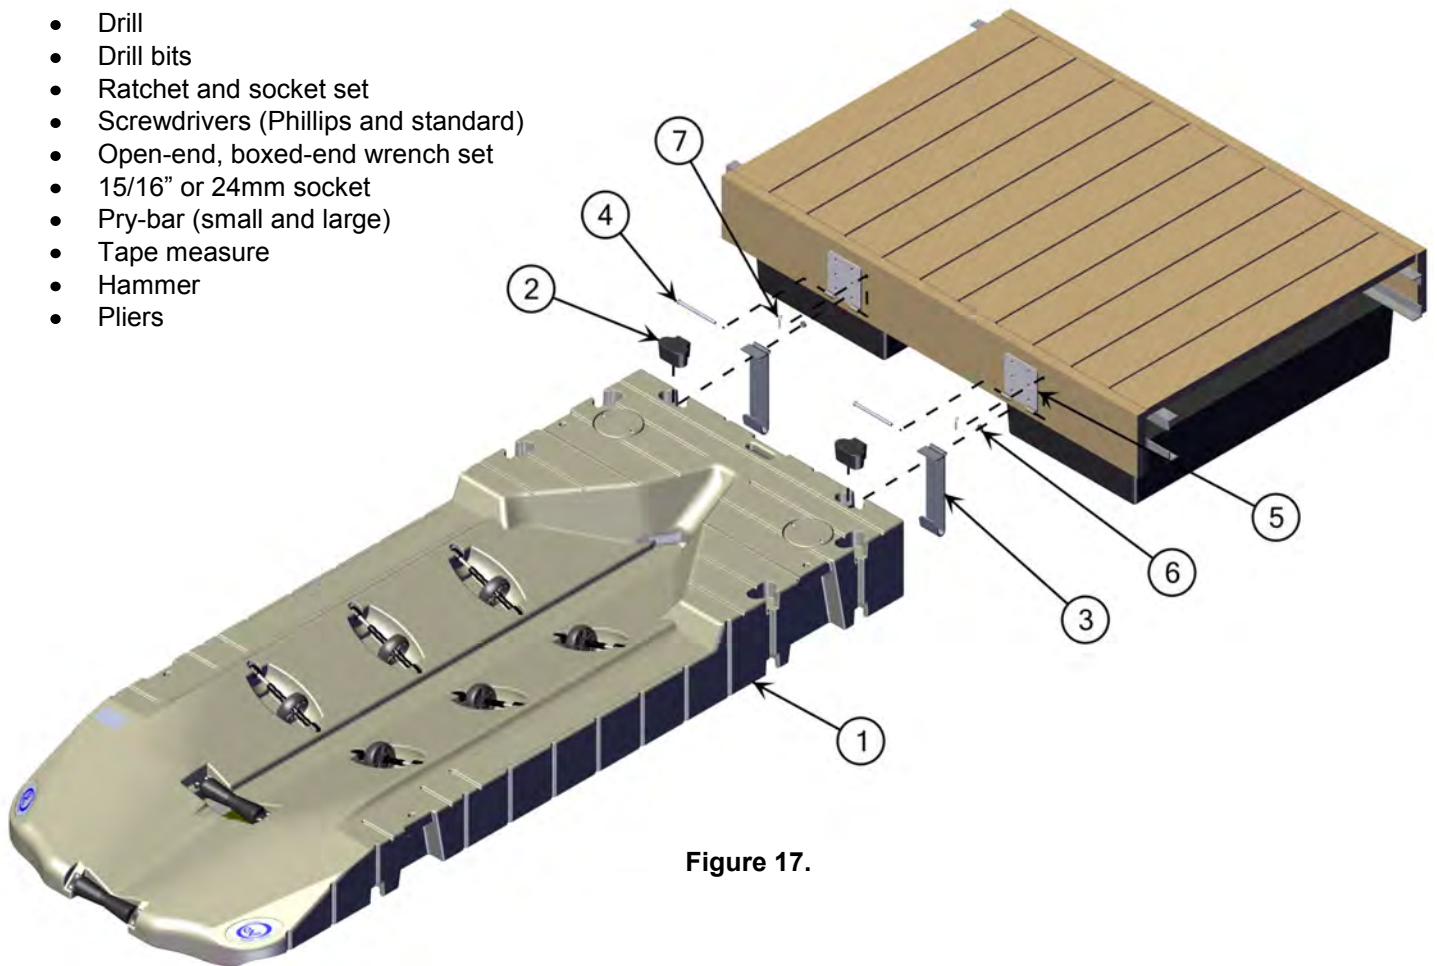
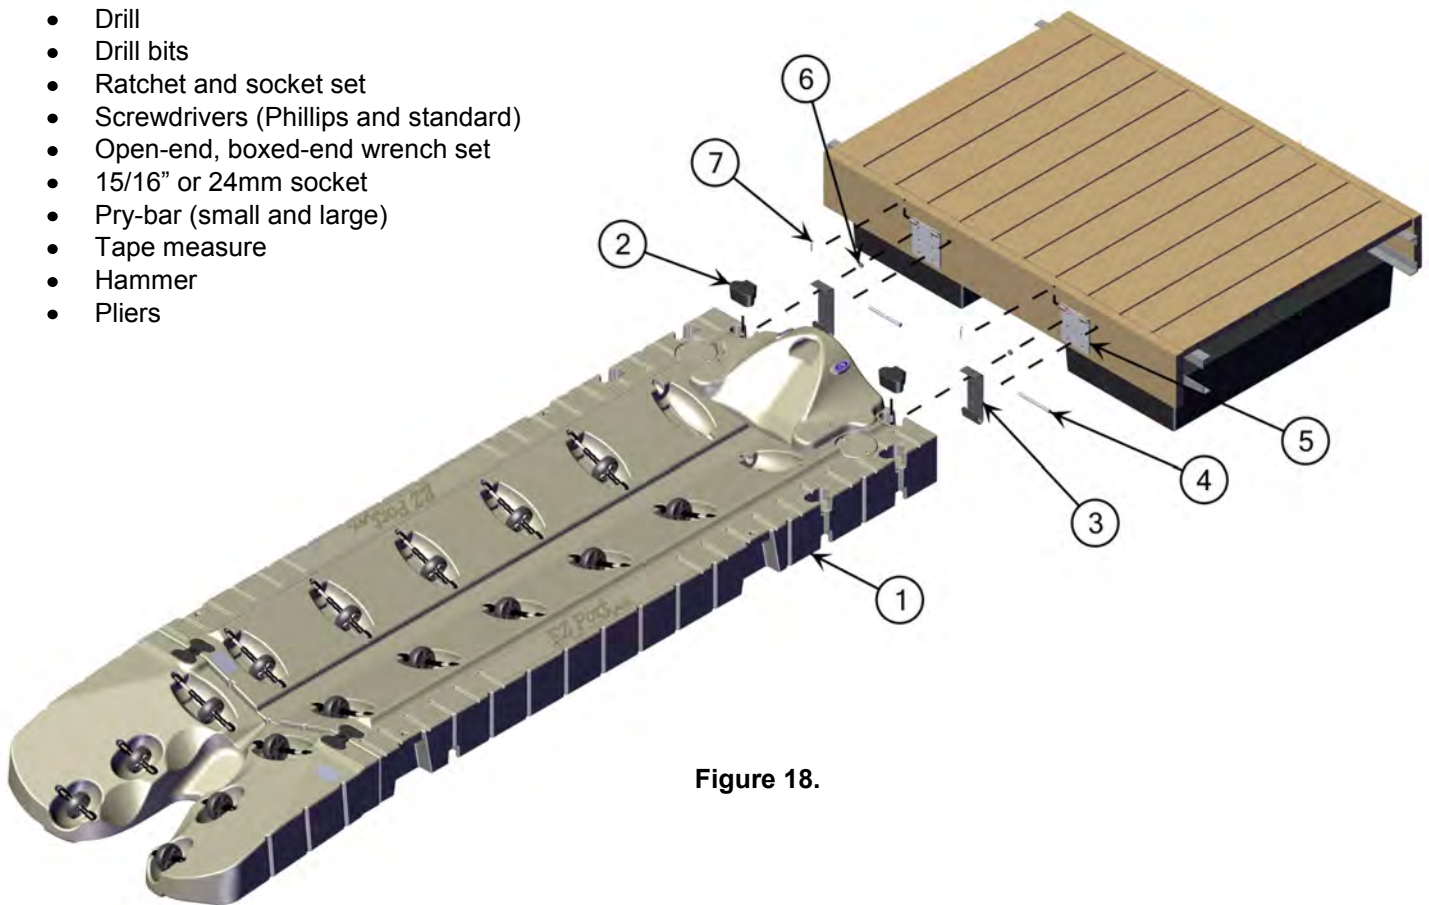

Figure 17.
Figure 18.
The 100750 or 100750SS hinge kit is required when anchoring an EZ Port MAX Entry (206030PW-**) with Full Bow Section (206025BS-**), or the EZ Port MAX Integrated Bow (Item 1) (Figure 17). The full bow section must be attached to the EZ Port MAX with the screws provided prior to the installation, (See Page 11 Figure 4 for bow section installation instructions).
2. Determine the best position for the hinge adapter plate. The plate can be above (Figure 17), perpendicular, or directly in front of the hinge adapter bracket, (Figure 18).